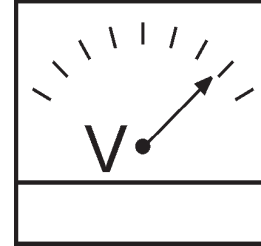

Figure 28. Voltmeter
8. The generator's AC-voltmeter (Figure 28) will display the generator's output in **VOLTS**. If the voltage is not within the specified tolerance, use the voltage adjustment control knob (Figure 29) to increase or decrease the desired voltage.